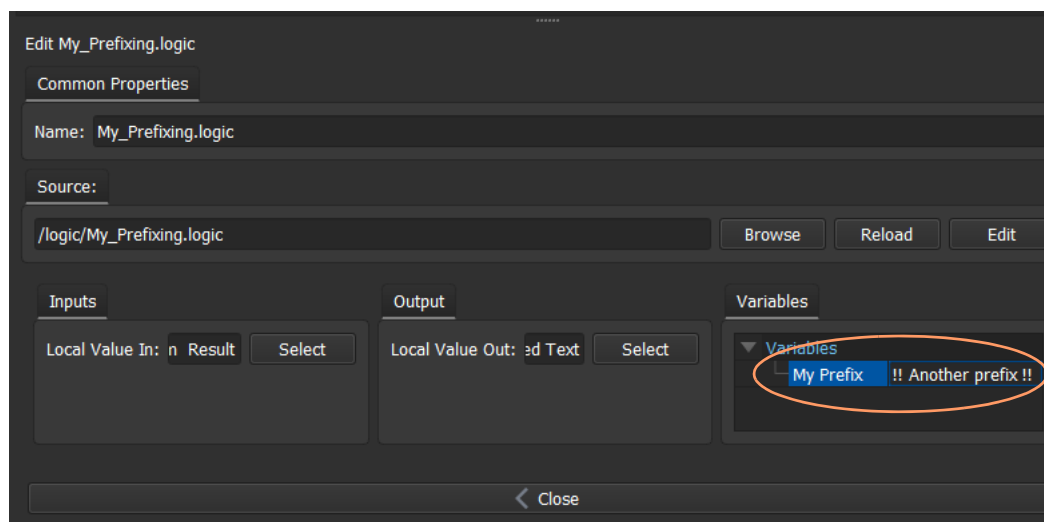

Fig. 10-18: Change Prefix Variable for an Instance of Custom Logic
- 5 Double-click on the prefixing Custom Logic to change it settings. See Figure 10-18.